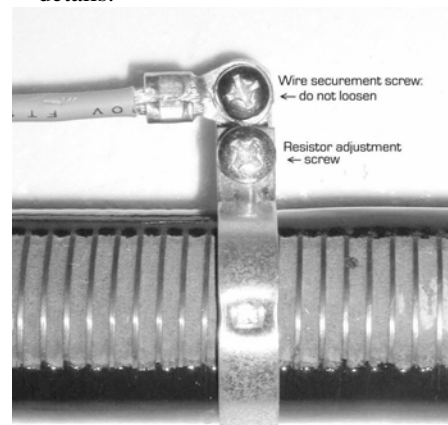

Figure 5. Resistor adjustment
7. If the measured output current was not what was anticipated, it is possible to adjust the source impedance in order to change the short-circuit output current. The adjustable resistors are accessible by opening the rear door. **NOTE:** disconnect mains power before opening the rear door or attempting to adjust the source impedance resistors. Refer to Figure 5 for details.